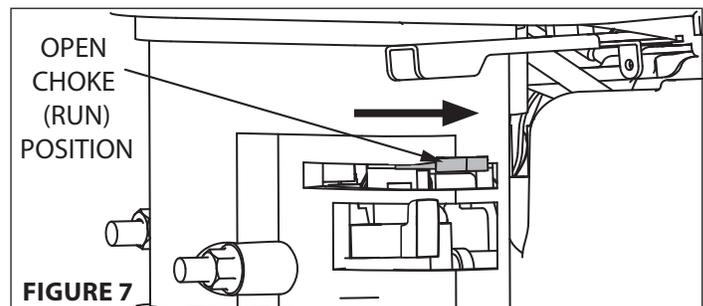

FIGURE 7
11. Once engine is warmed up, slowly move the choke lever to the **RUN** position. **SEE FIGURE 7**